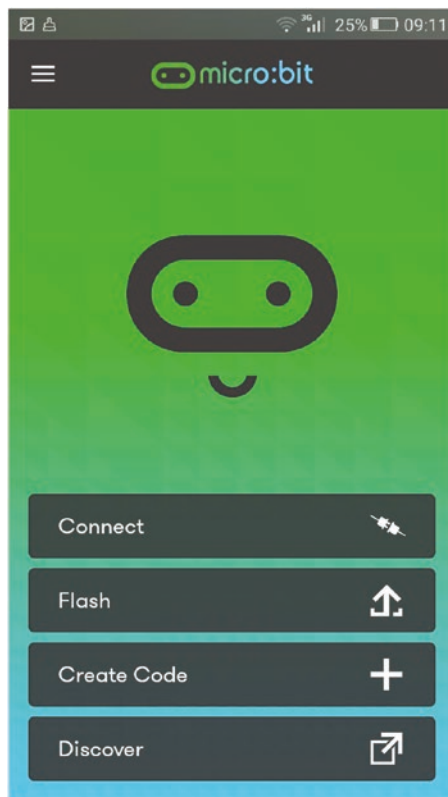

Figure B-8. Tapping the Flash button
1. Go to the micro:bit app's main page and tap the Flash button (see Figure B-8).